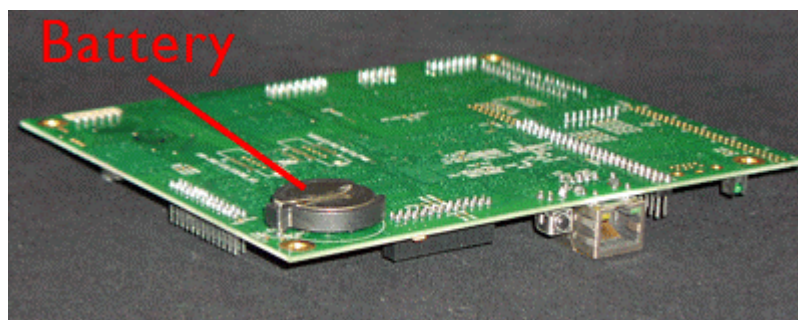

Figure 6.3.5 – Lithium battery on bottom of main PCB.
- Step 10. The long-life Lithium battery (Panasonic Lithium battery, 3V, 255mAh, model BR2330 or equivalent) is installed on the bottom of the main TEALwatch® PCB. Flip the PCB over for access to the battery. Use a small coin or a small tool to remove the battery from the socket as shown in Figure 6.3.5.